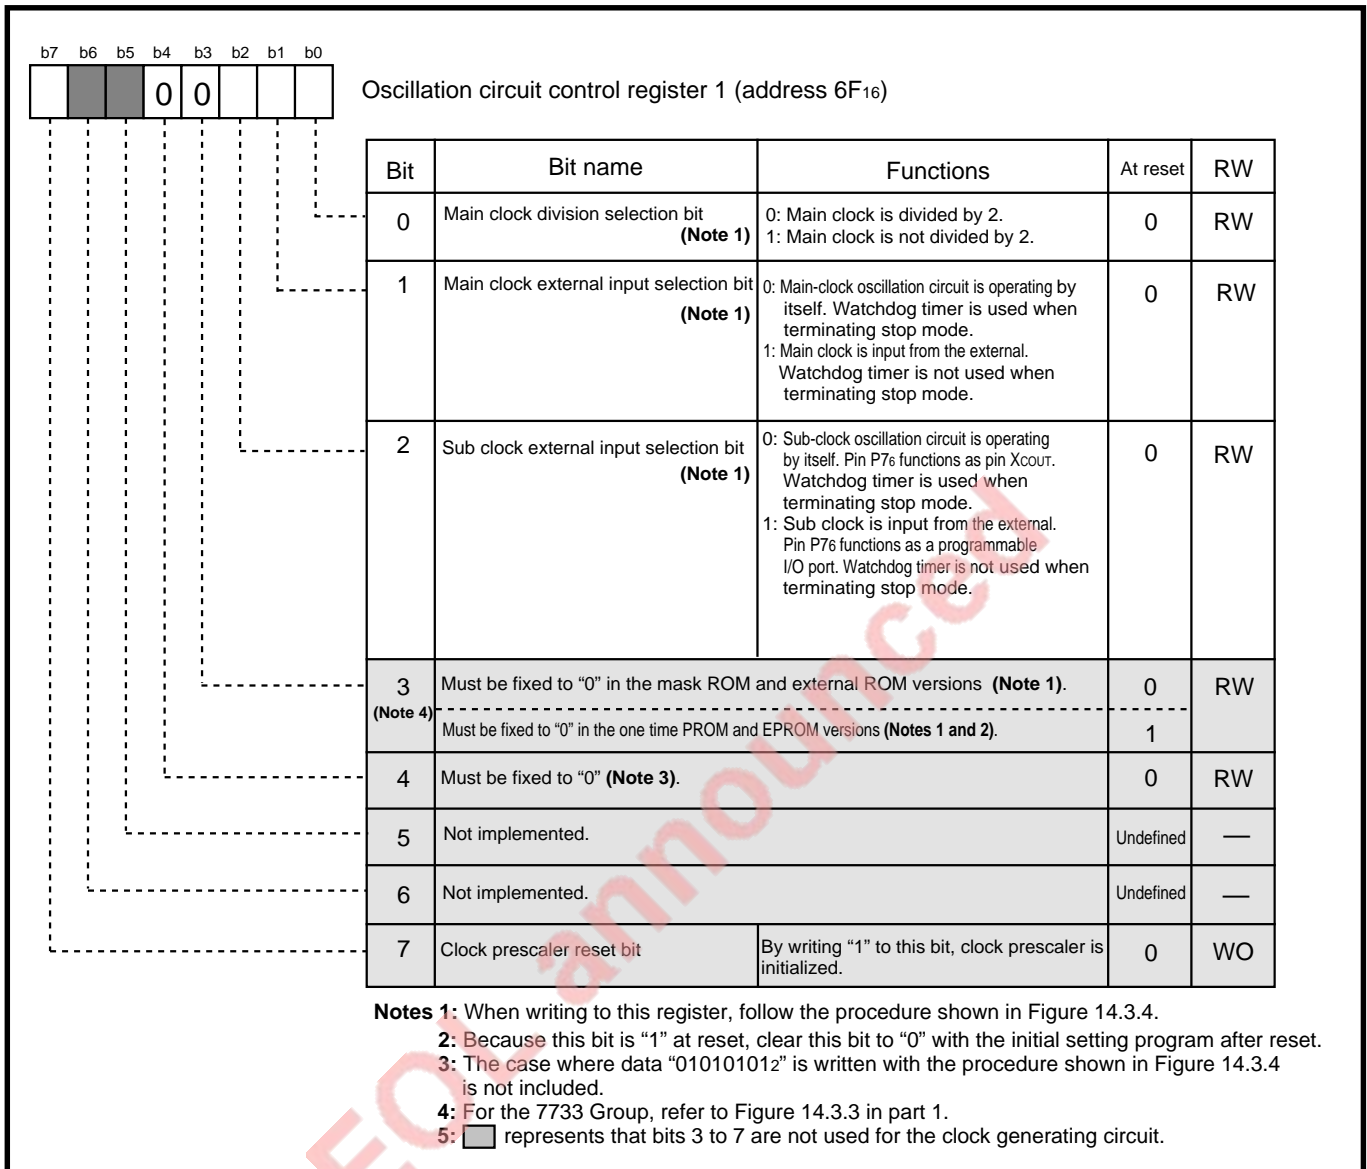

Fig. 14.3.3 Structure of oscillation circuit control register 1
\*3 State immediately after reset for bit 3 at address 6F16 vary according to the microcomputer. (Refer to **Figure 14.3.3 in part 2** ; This bit's function of the 7735 Group differs from that of the 7733 Group.)
- **Figures 14.3.3 and 14.3.4**